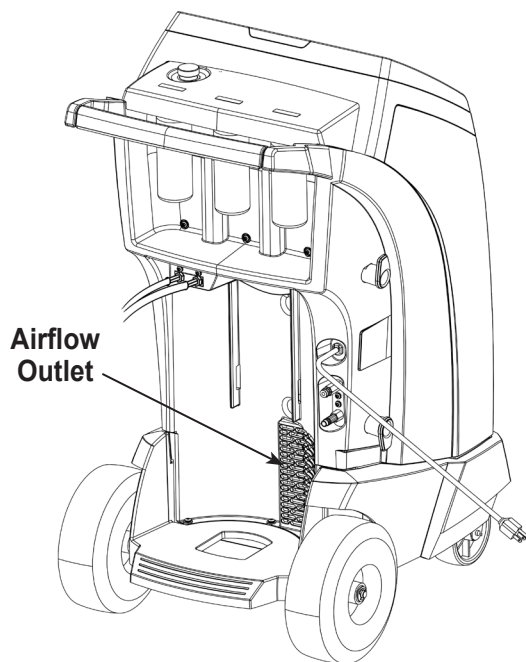

Figure 8
Clean airflow outlet panel (see Figure 8)	Monthly. Use a clean cloth.
6. Install the new filter by threading it clockwise into place. Verify the filter is positioned correctly as shown in Figure 8. Tighten the filter to 20 Nm.